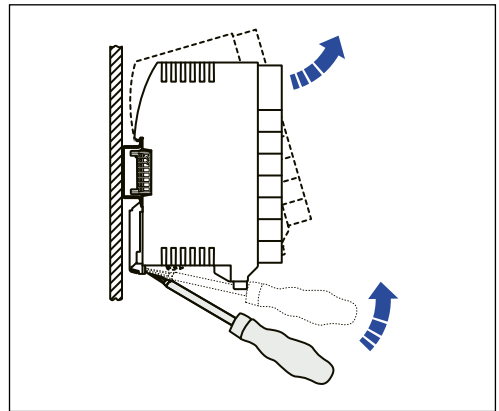

Fig. 9: Release the connection module from the DIN rail connector
2. Insert a screwdriver through the bracket of the connection module (Fig. 9).